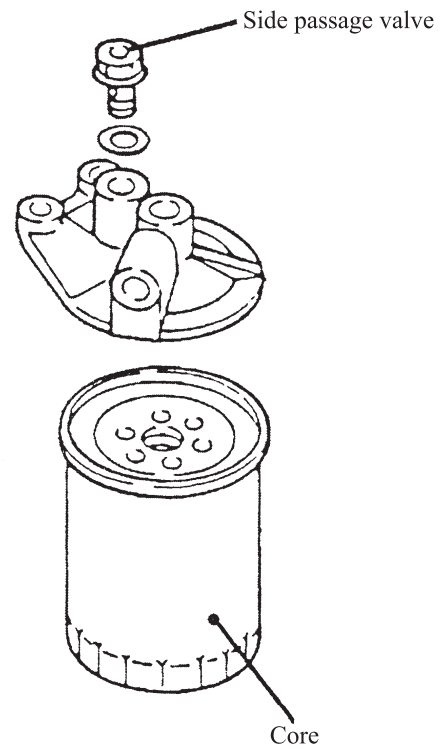

Fig.1-5
1.2.2 For fuel filter, See Fig.1-5